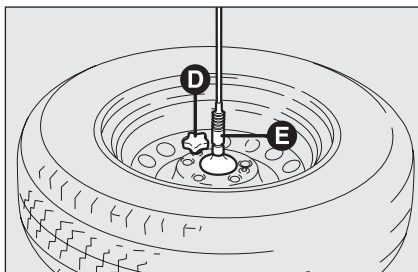

fig. 7b
- ☐ take the flat tyre, hook it to support **E-fig. 7b** and screw knob **D-fig. 7b**;